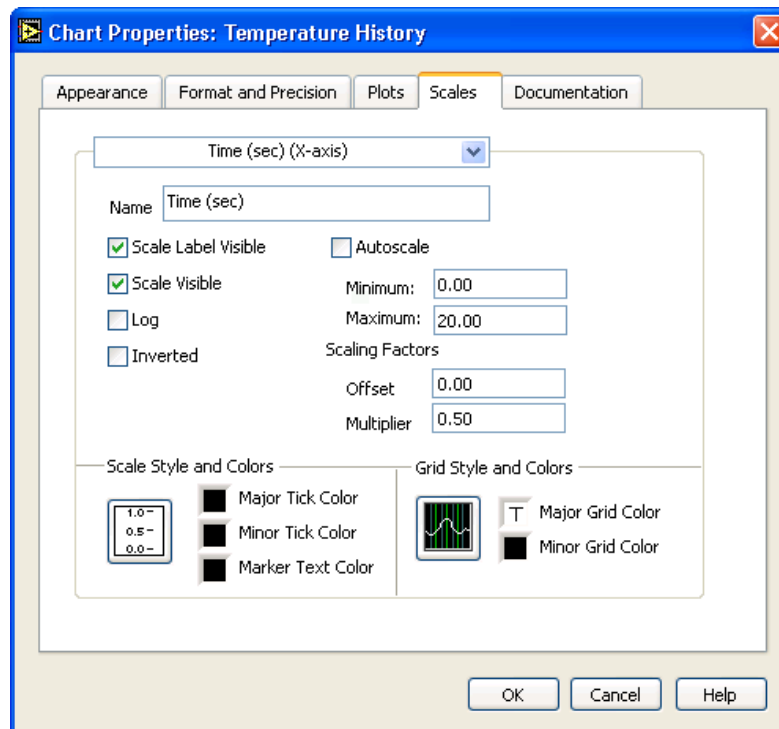

Figure 7.8
- (d) Select the Scales tab and select the Time (sec) (X-axis) in the top pull-down menu. Set the scale options as shown in Figure 7.8. Set the Multiplier to 0.50 to account for the 500 ms Wait function.